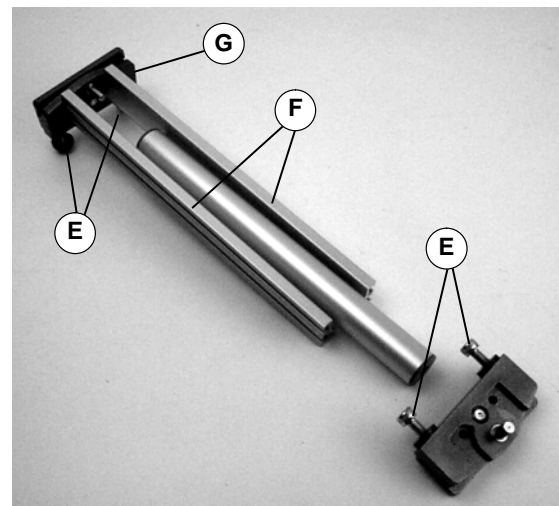

Figure 3
1. Typical Components (Figure 3).